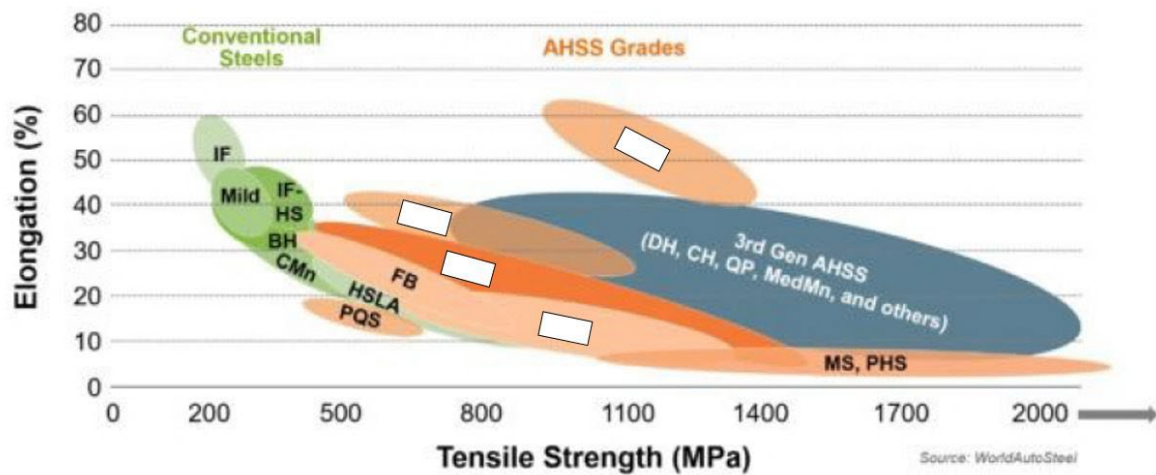

Figure 2. Comparison of mechanical properties of different steels;
- The above-mentioned steels have different mechanical properties. Fill in the missing labels in Figure 2 using DP, CP, TRIP, and TWIP. (2P)